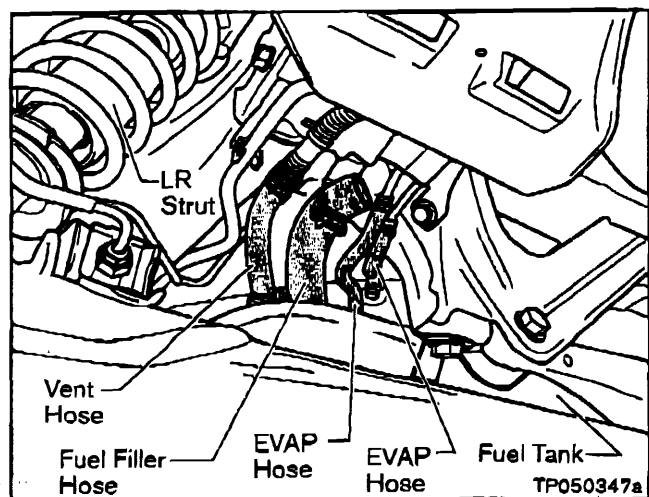

Figure 6
11. Disconnect the following Fuel Tank Hoses from the Fuel Tank (leave them connected to the vehicle). See Figure 6.